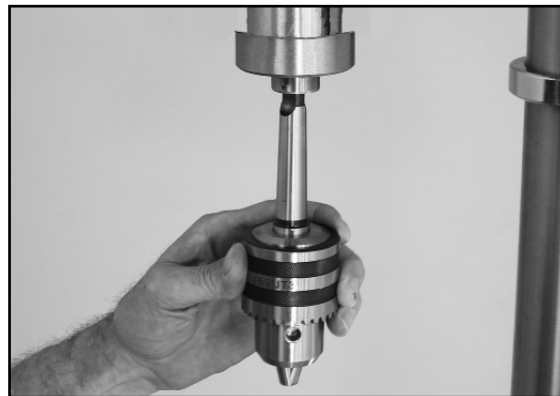

Figure 8
1. Carefully insert the arbor's short, JT3 tapered end into the rear tapered hole of the chuck. (Figure 8).